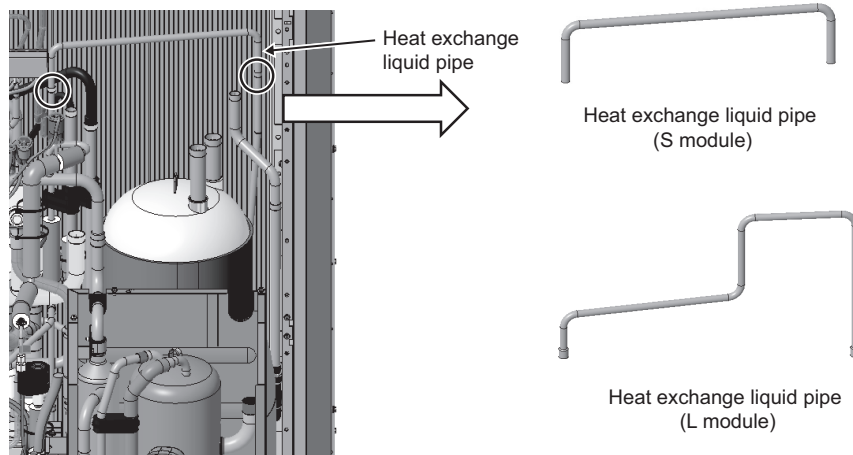

Fig. 9
- (9) Remove the brazing from the heat exchange liquid pipe. (Two areas: Fig. 9)